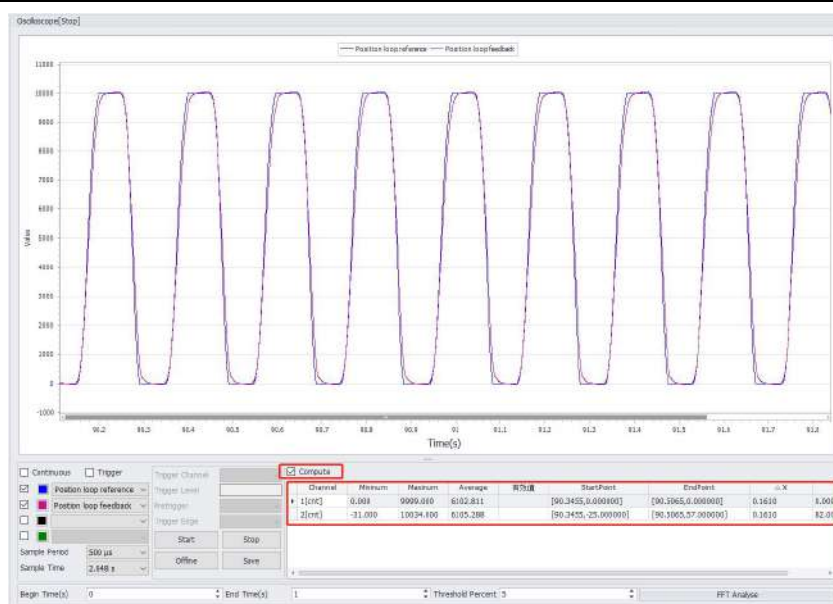

Figure 5-7 Waveform calculation
2) Waveform calculation. Check "**Calculate**" in the oscilloscope, and the area below "**Calculate**" will display the maximum, minimum, average, and peak-to-peak values of the current sampled waveform, as shown in Figure 5-7.